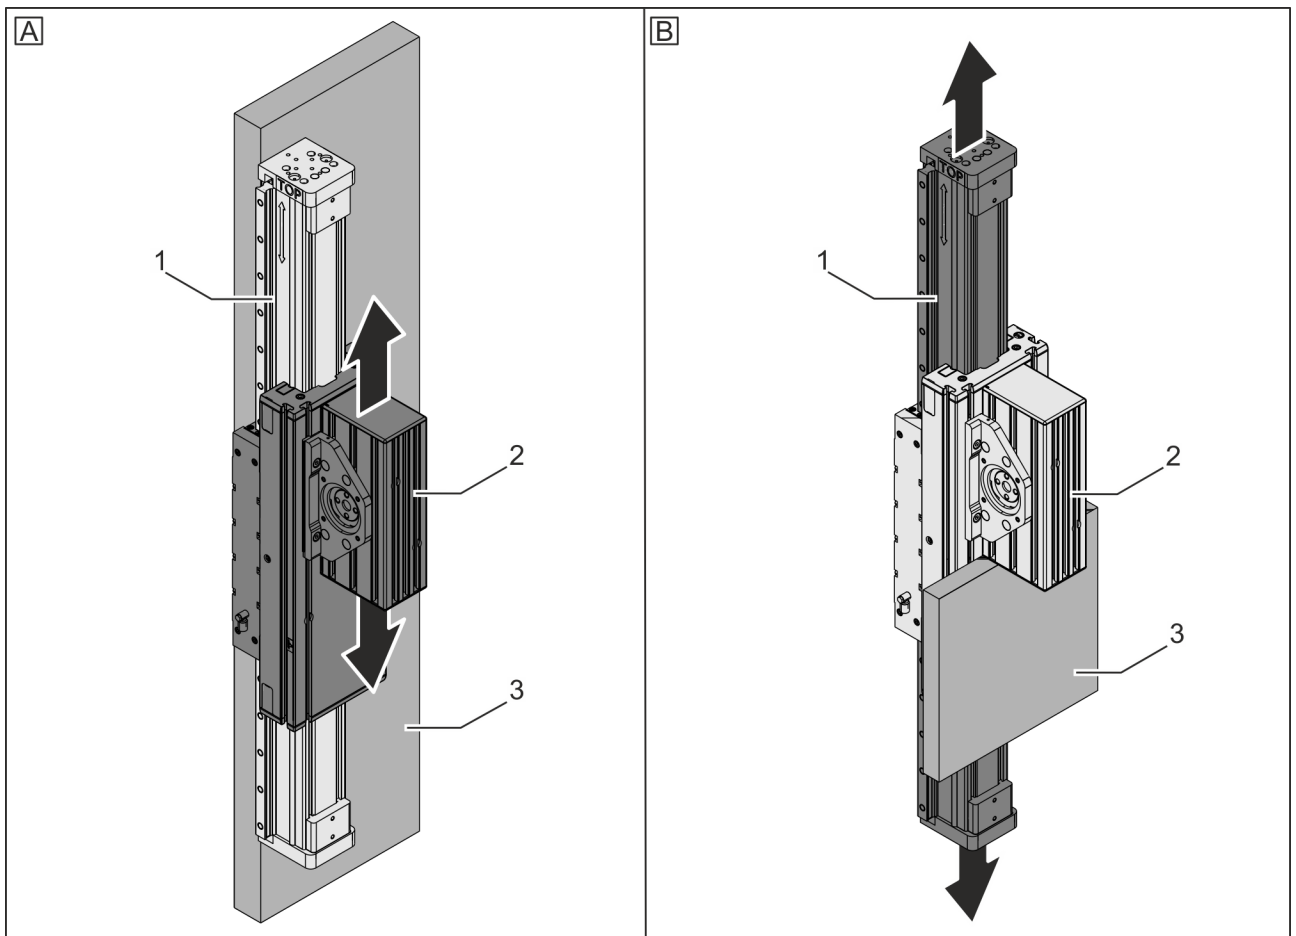

Fig. 6: Linear unit traverse movement
Depending on how the linear unit is fastened to the substrate (Fig. 6/3), either the guide carriage (Fig. 6/A) or the guide profile (Fig. 6/B) moves:
- Guide profile (Fig. 6/A1) fastened to substrate (Fig. 6/A3):
→ Guide carriage (Fig. 6/A2) moves along the guide profile
- Guide carriage (Fig. 6/B2) fastened to the substrate (Fig. 6/B3):
→ Guide profile (Fig. 6/B1) moves within the guide carriage